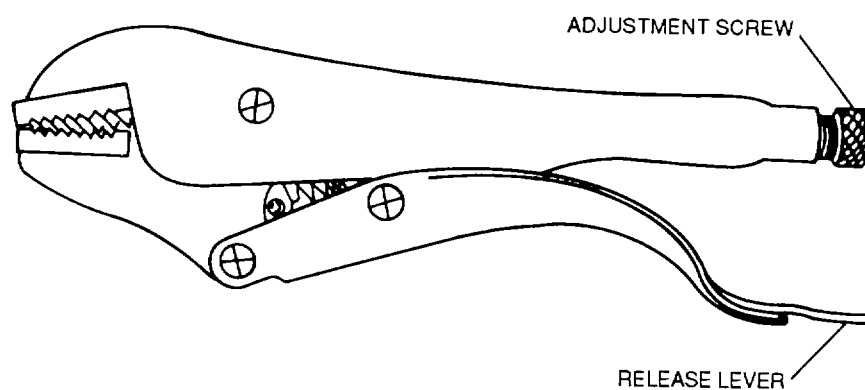

Figure 4-47. Vise-Grip Pliers
(8) *Vise-grip pliers.* Vise-grip pliers have a clamping action which allows them to be clamped onto an object. They will stay there and free the other hand for other work. These pliers, shown in figure 4-47, are sometimes made with a clamp-type jaw which allows them to be used for clamping sheet metal. The vise-grip pliers can be adjusted by turning the knurled adjustment screw until the desired jaw dimension is reached.